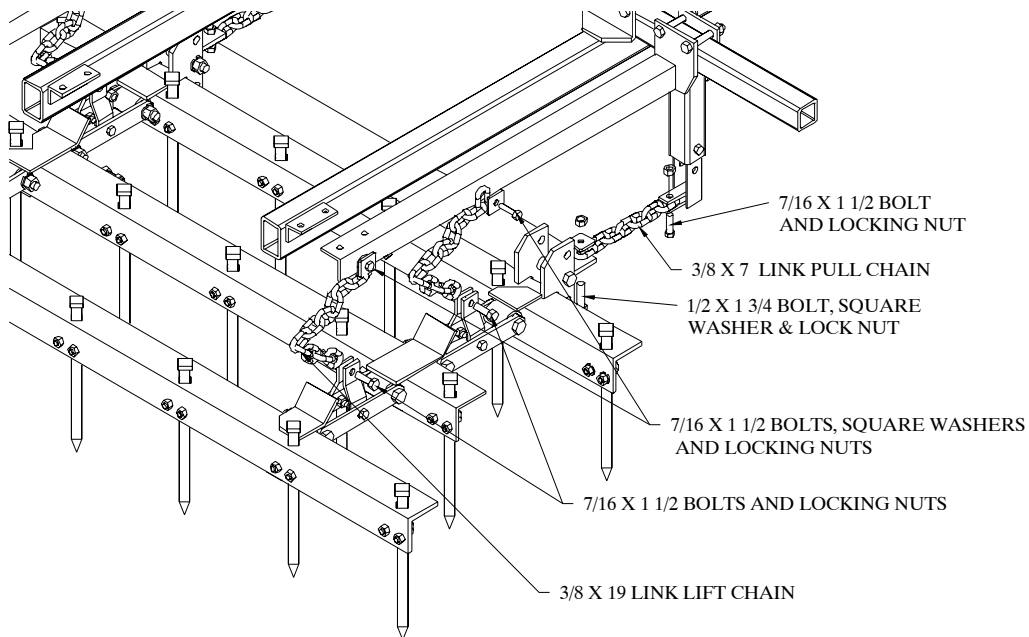

Figure 4
2. Bolt the harrow sections to the pull arms with the chains provided using the fasteners identified in Figure 4. Be sure to use the correct chain in each location.